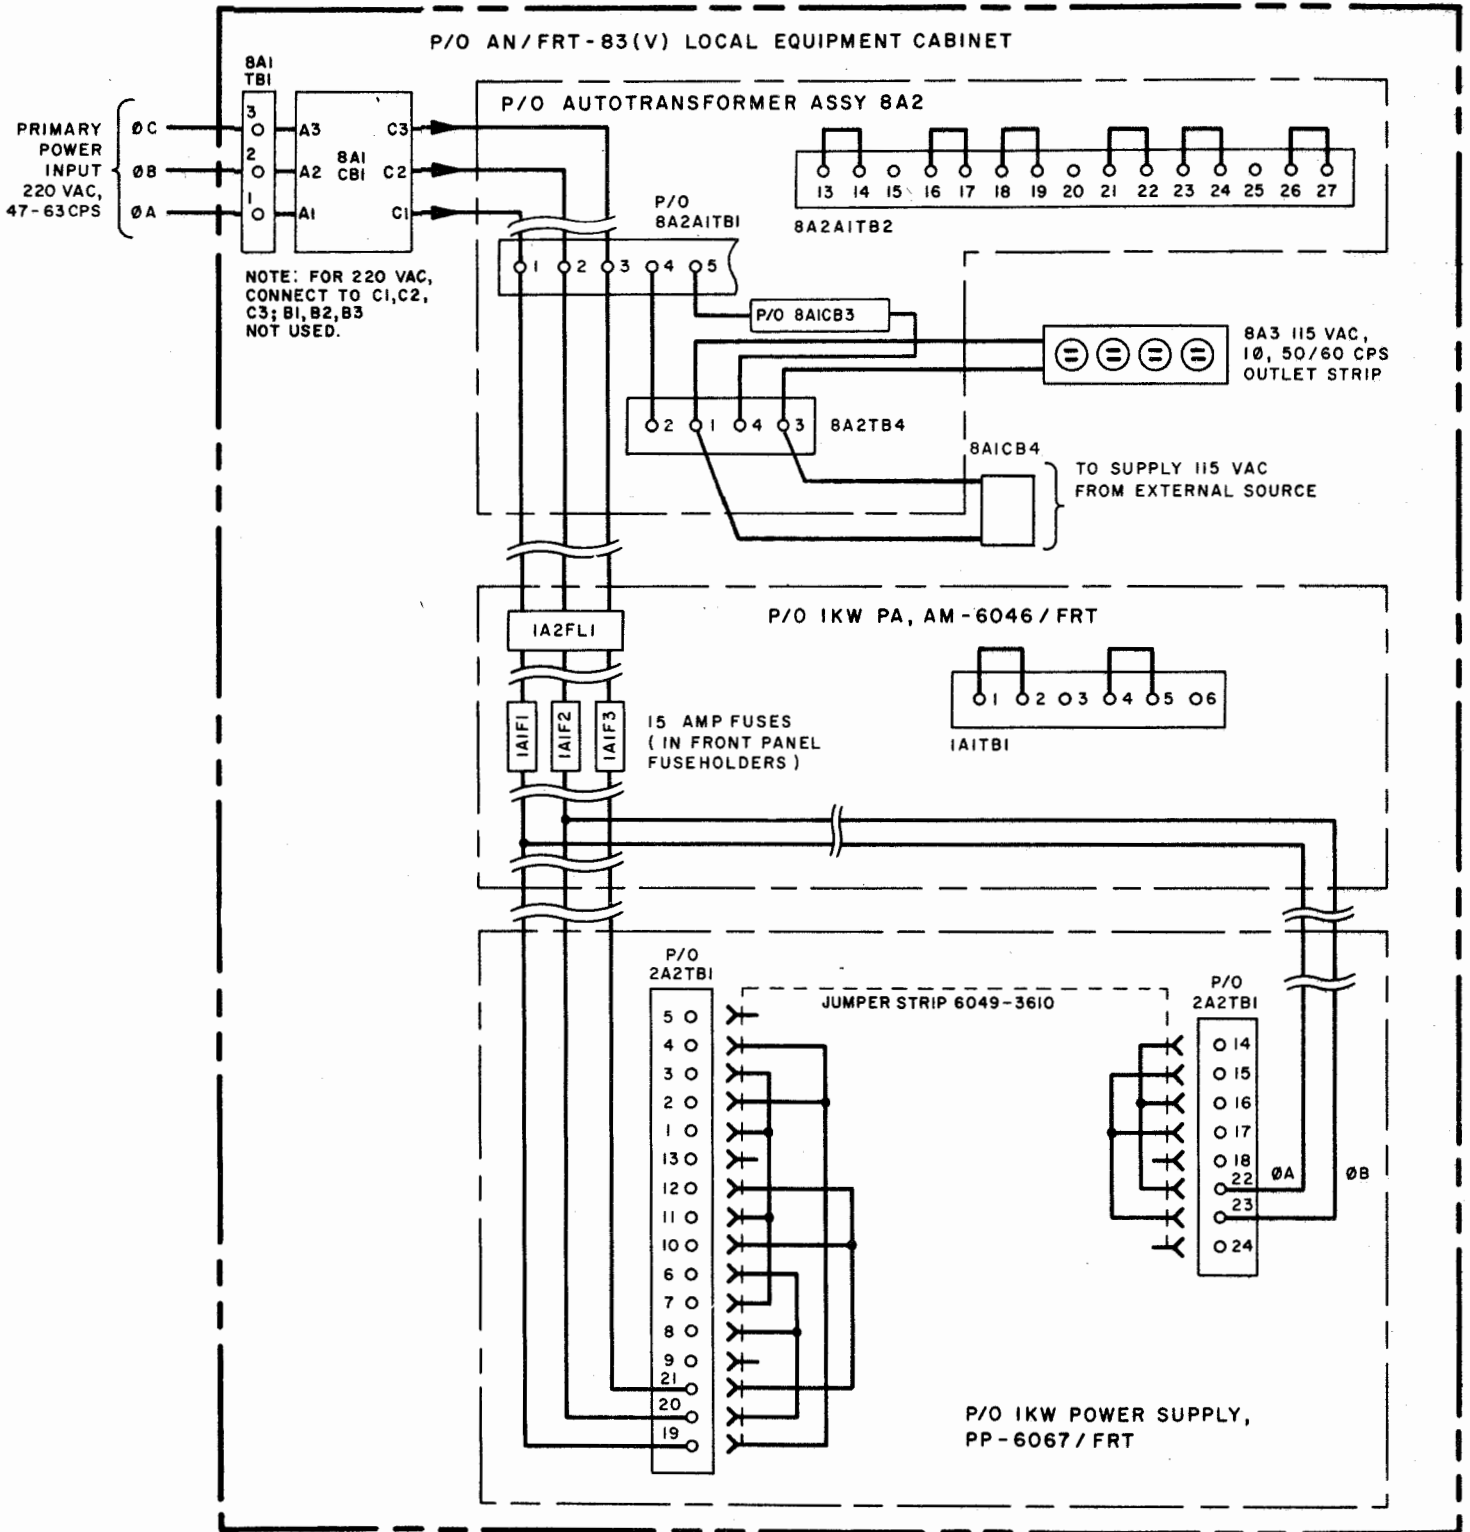

Figure 2-3. 220 VAC Primary Power Fusing and Jumpering Scheme
2-17 PRIMARY POWER WIRING. The AN/FRT-83(V) local equipment cabinet utilizes either 460 VAC or 220 VAC primary power (paragraph 2-6). As shipped, internal connections are usually made for 460 VAC operation, and 1 KW PA primary power fuses are supplied for 460 VAC. Alternate connections and fuses must be used for 220 VAC operation. Table 2-3 shows connections for 460 VAC schematically, and figure 2-3 shows connections for 220 VAC.